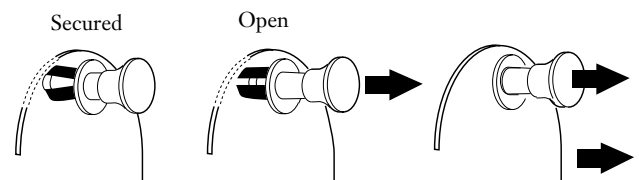

Figure 2
3.1 Remove a blank panel by pulling out both of the plungers of the panel's push/pull fasteners (Figure 2).